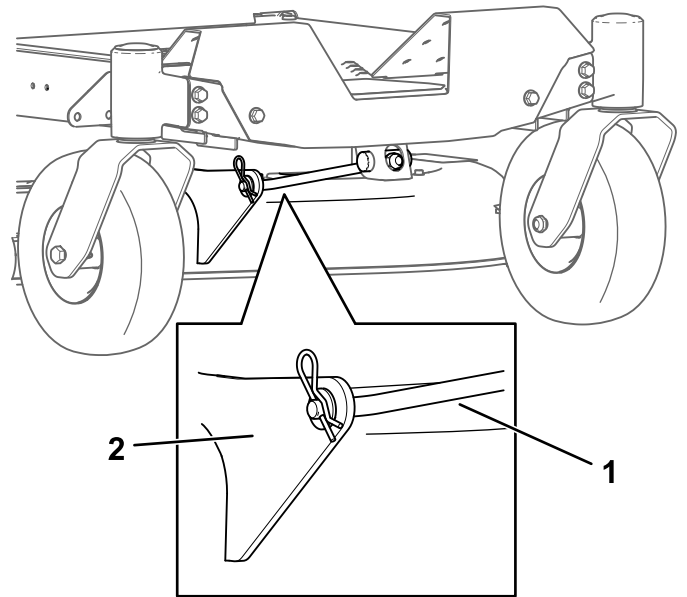

Figure 67
4. Remove the hairpin cotter from the front support rod, and remove the rod from the deck bracket (Figure 67).
8. Attach the front support rod to the mower deck with the clevis pin and hairpin cotter (Figure 67).